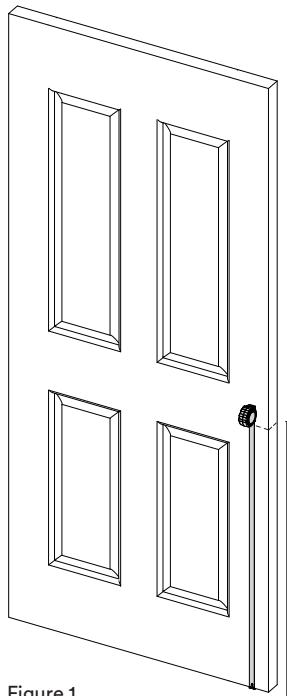

Figure 1.
- 1.2. We recommend around 900mm – 1100mm from floor level, or at the centre of a lock rail on a panel door. (Figure 1)